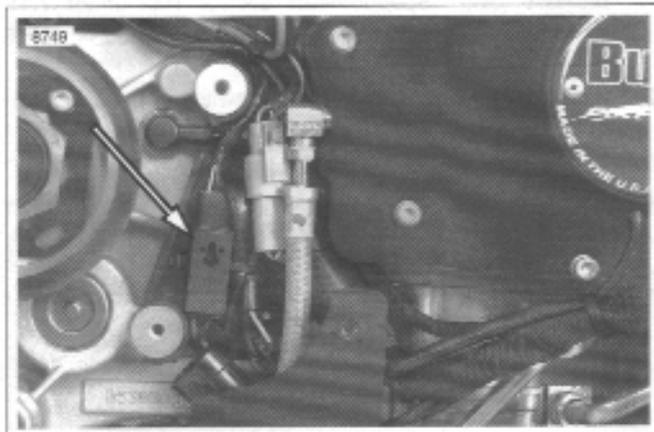

Figure 7-62. Cam Position Sensor Connector
1. See Figure 7-62. Locate the 3-place cam position connector [14] under the sprocket cover. See 2.30 *SPROCKET COVER*.